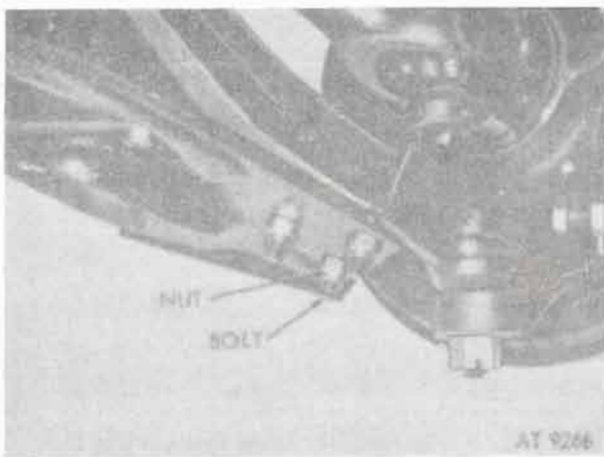

Figure 10-21. Right spindle support lower ball joint and attaching hardware.
a. Remove three nuts and bolts securing the right and left lower ball joints to the lower arms (fig. 10-21).